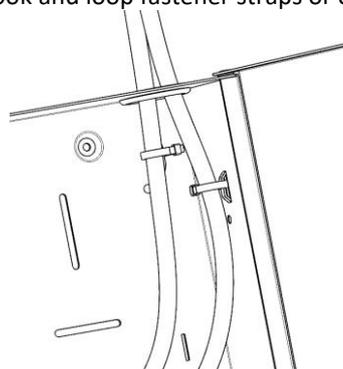

Fig.4
2.1 Back Cable Entry & Retention (Fig. 4)
- Secure cables with hook and loop fastener straps or cable ties to tie off feature (Fig.4).